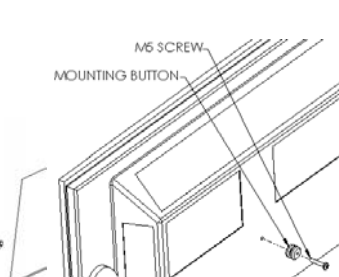
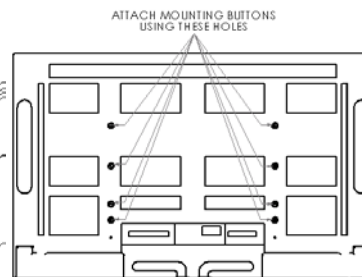

Figure 3
Figure 4
2. Remove any existing buttons from back of screen. Attach mounting buttons to plasma using M5 screws provided (see Figure 3 & Figure 4).
4. With the aid of another person, lift display up to the Chief mount, aligning mounting buttons with the teardrop slots and setting into place (see Figure 4).